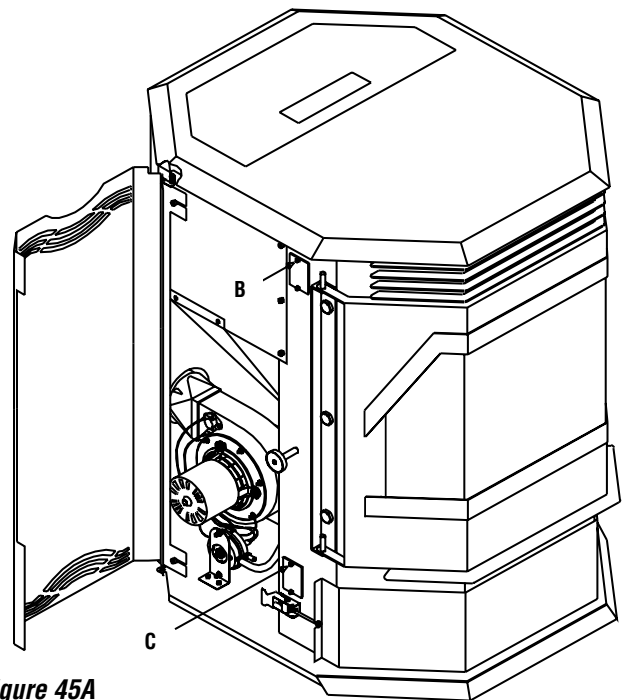

Figure 45A
Inspect the condition of the rope gasket around the door, window and ash drawer, periodically, and replace if necessary. Inspect the die-cut gaskets on the access covers (B and C in **Figure 45A**) and replace if necessary.
1. Open both the right and left side door to locate side flue passageways (see B and C in **Figure 45A**).
2. There is one upper and one lower, 1" x 2", flue passageways on both the left and right sides (see B and C in **Figures 45A, 45B and 45C**).